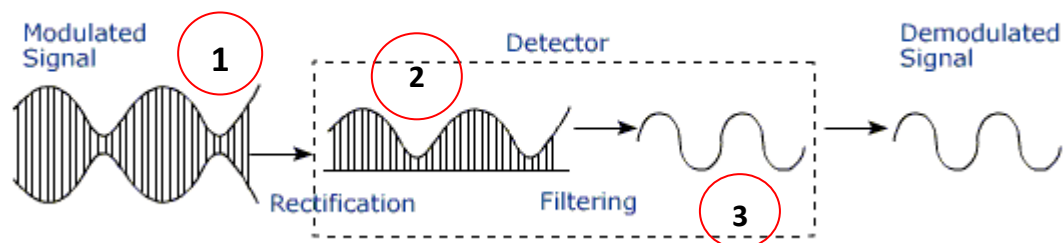

Figure 3
- 2) Fig. 3 depicts a typical demodulation procedure for an amplitude-modulated signal. Let's assume that the original signal to be transmitted was a simple sinusoidal signal. An oscillator fixed at the carrier frequency (which is a much higher frequency than the original sinusoidal signal) changes the signal's characteristics before transmission as shown in (1) in the figure below – the amplitude of the fixed-frequency carrier wave is changed according to the signal to be transmitted (thus, the amplitude of the "envelope" of the signal changes according to a sine wave, as shown in (1)).